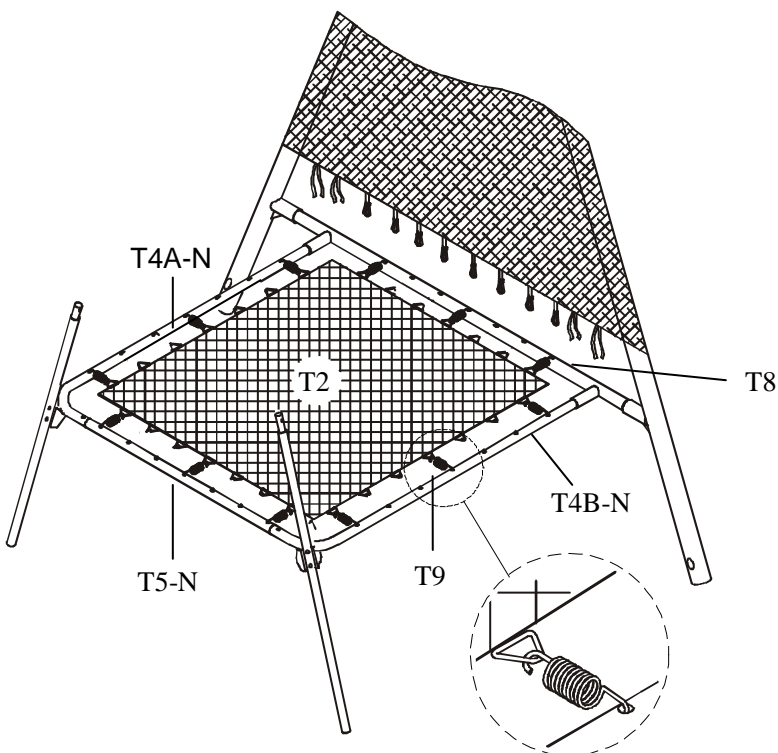

FIGURE 2
- Next, attach spring to the center holes of the trampoline frame as shown in FIGURE 2.